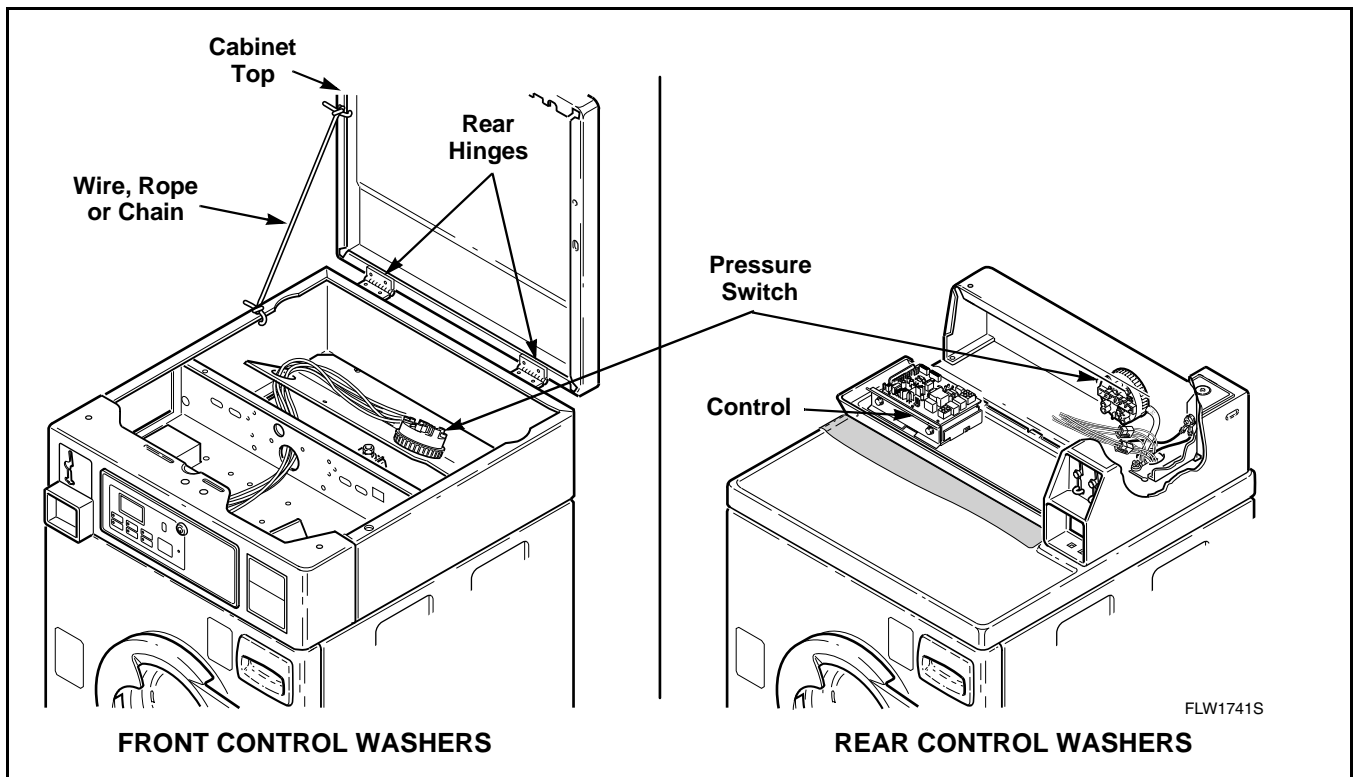

Figure 31
- d. Squeeze in locking tabs on pressure switch and remove switch. Refer to *Figure 31*.